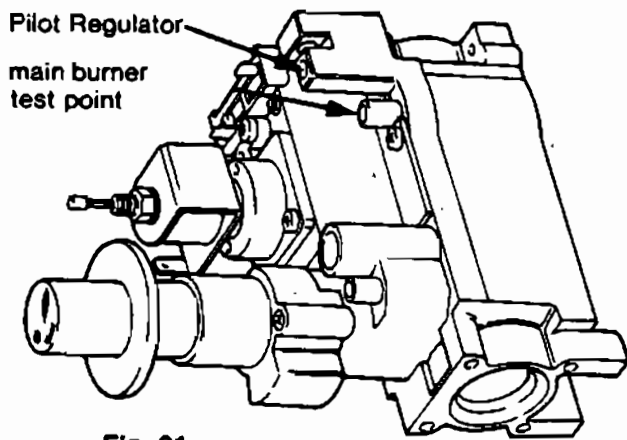

Fig. 21
6.6.8.4 Slacken sealing screw in the pressure test point ½ turn anti-clockwise ☺ and attach a suitable pressure gauge (fig 21)